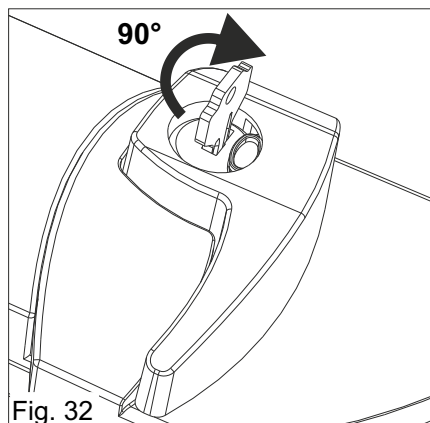

Fig. 32
- 2) Insert the key and turn of about 90° clockwise (Fig. 32)